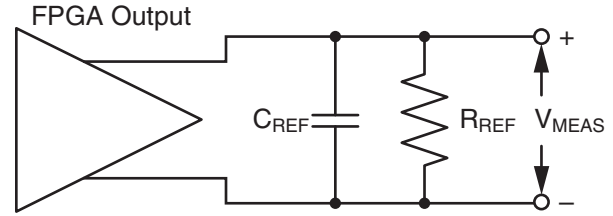
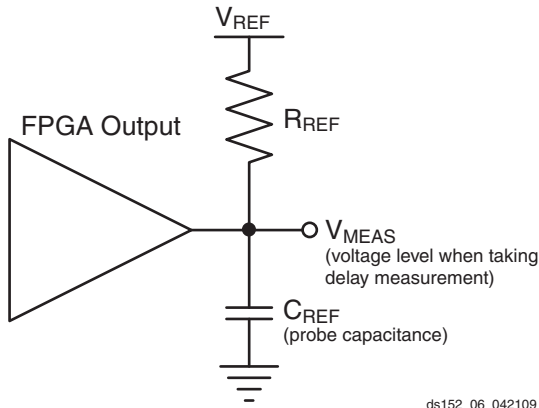

Figure 7: Differential Test Setup
Figure 6: Single Ended Test Setup
5. This is an input voltage reference that bears no relation to the V_{REF} / V_{MEAS} parameters found in IBIS models and/or noted in Figure 6.
Output delays are measured using a Tektronix P6245 TDS500/600 probe (< 1 pF) across approximately 4" of FR4 microstrip trace. Standard termination was used for all testing. The propagation delay of the 4" trace is characterized separately and subtracted from the final measurement, and is therefore not included in the generalized test setups shown in Figure 6 and Figure 7.